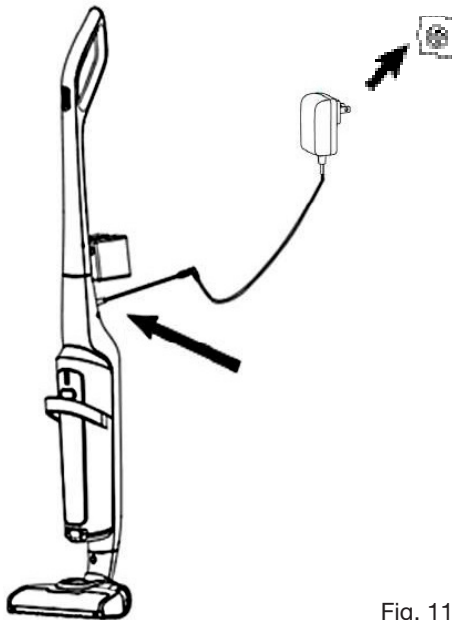

Fig. 11
2. Then connect the other end of the mains adapter to a wall socket (Fig 11).